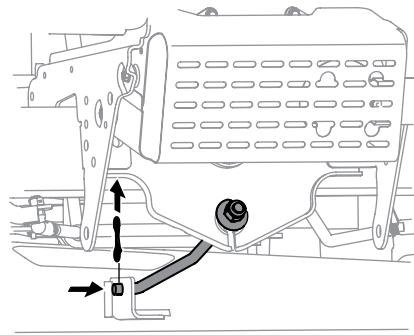

Figure 4-13
8. Remove the bow-tie pin securing the deck stabilizer rod to the deck. Slide the deck lift rod from the mounting weldment on the deck as seen in Figure 4-13.